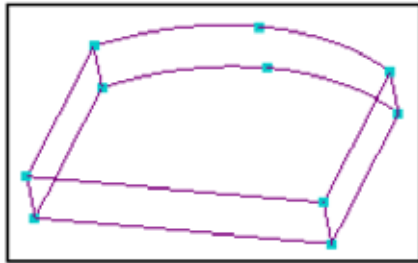

Figure 56: Connecting lines top and bottom geometry
- Your model should look like Figure 56.